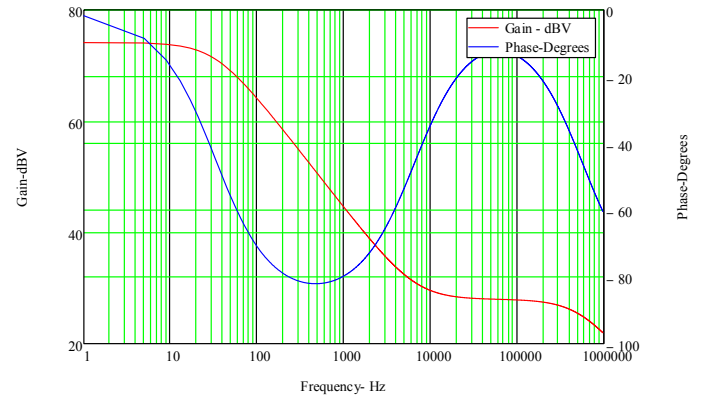

Figure 10 – PI354X Input-Control Gain/Phase
The transfer function of the error amplifier and compensator (also known as the Input To Control transfer function) reveals the response of a Type II amplifier with a low frequency pole determined by Equation(6), a zero which sets the mid-band gain determined by Equation (7) and a high frequency pole determined by Equation (8). Figure 10 shows the calculated Input To Control transfer function. Multiplying Equation (3) by Equation (5) ; described by Equation (9), results in the total loop gain (also known as the Output To Input transfer function). A graph is shown in Figure 11. The strategy is to set the zero such that the mid-band gain allows a high crossover frequency while providing maximum phase boost at crossover, with proper gain and phase margin.